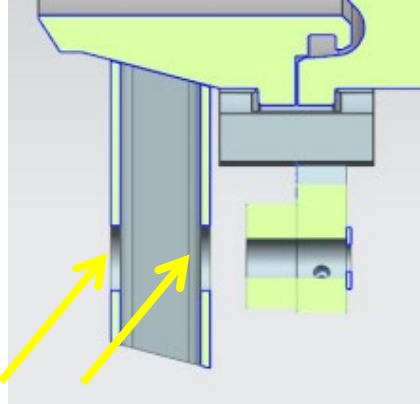

Figure 8: Upper Surface of Pivot Plate
- F. Use weld instructions found on the top-level clamp manufacturing document to weld clamp ring pivot pin, see Figure 8.